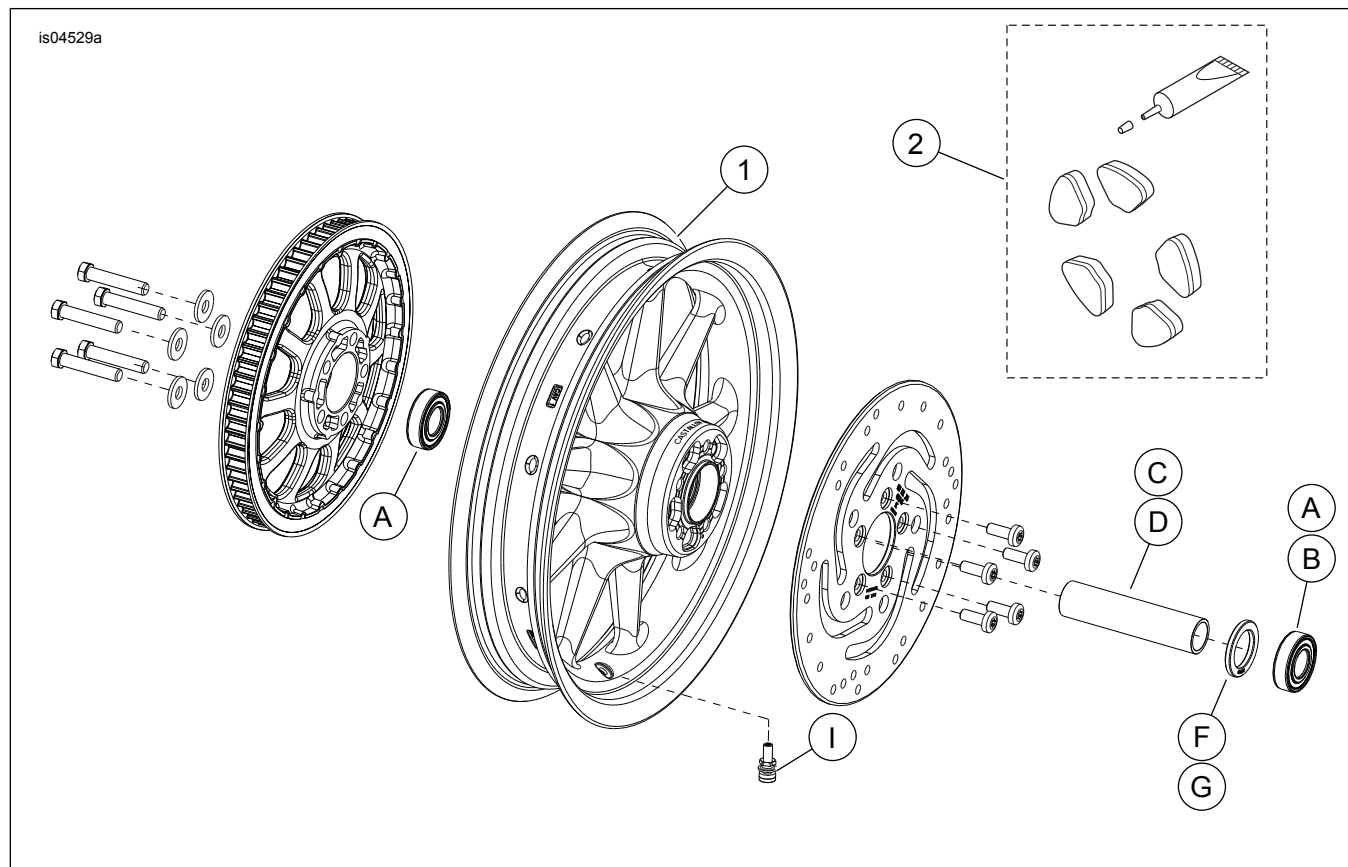

Figure 1. Service Parts: Rear Nine-Spoke Wheels (16 Inch Shown)
See Figure 1 and Table 2.
2. See Figure 1. Install valve stem assembly (H or I) on wheel. Refer to the service manual.